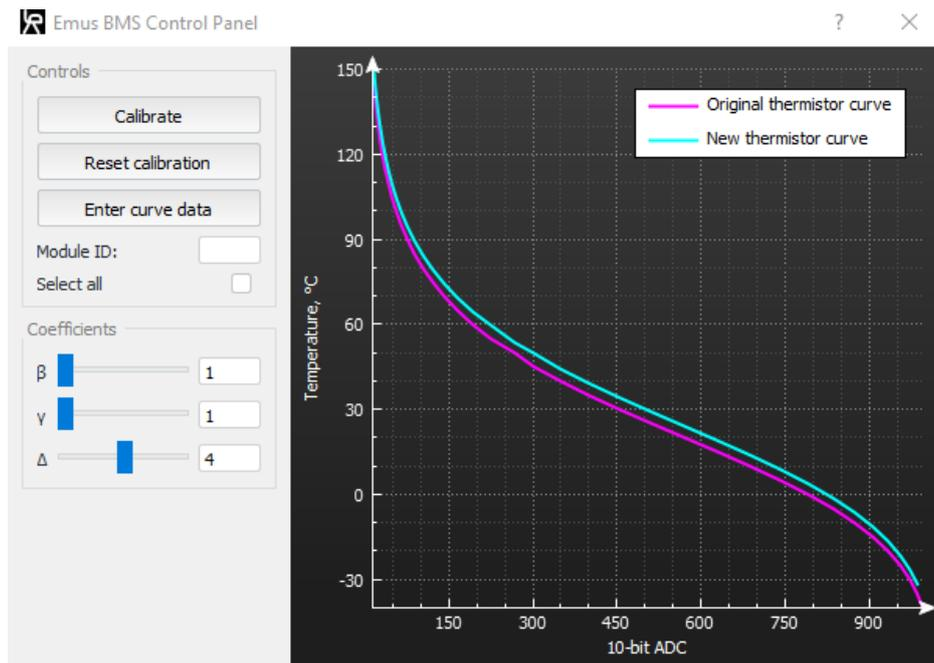

Figure 0.1 External temperature sensor calibration window,
2. Click on  button. A  window showed in Figure 0.1 should appear;